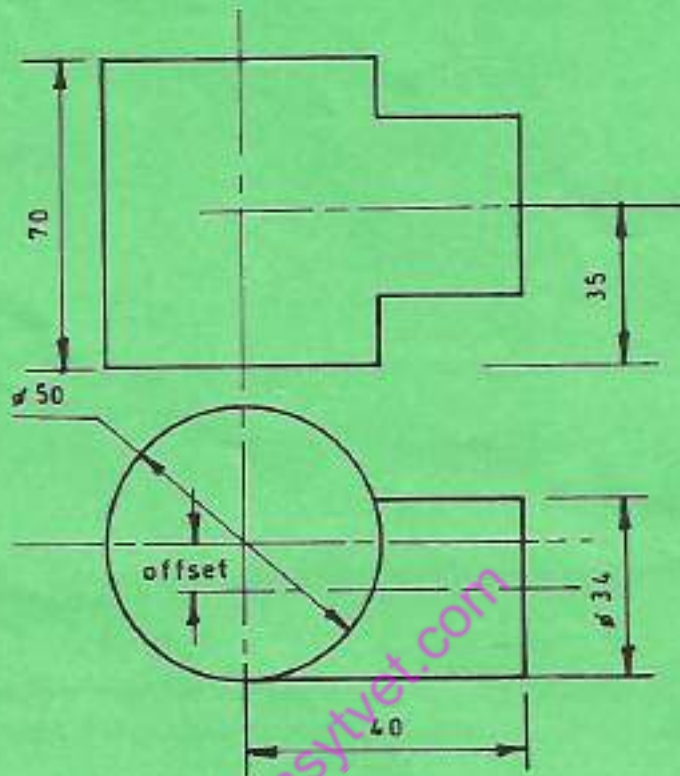

Fig 3
4. Figure 3 shows the intersection of two cylinders. Copy the given views then: